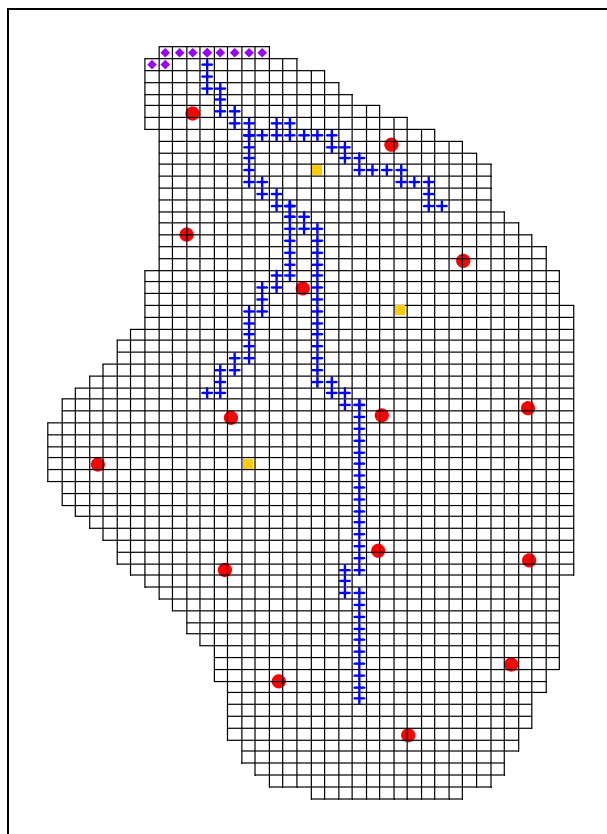

Figure 5. Placement of Scatter Points
7. Click out a set of scatter points similar to those shown in Figure 5. Create about 15 points. Don't worry about the exact location of the points, as long as they are distributed in a reasonable fashion.